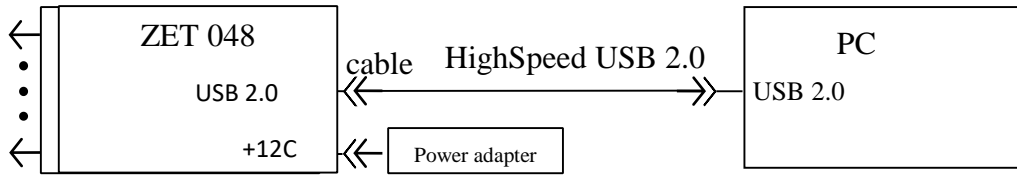

Figure 1.4. ZET 048-E connection to a PC via USB 2.0 interface
1.6.2.2.1 The Recorder shall be connected to a PC via High Speed USB 2.0 interface bus according to the electric connections diagram (Figure 1.4). Description of the Recorder operation and settings is provided in the relevant section of “Operator Manual. Part 1”.